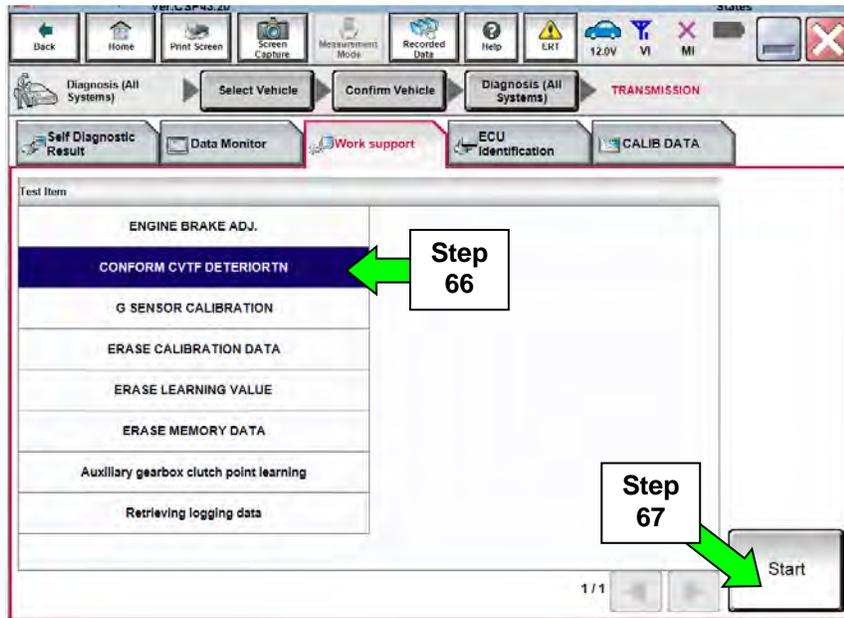

Figure 37
65. Navigate C-III plus to the screen shown in Figure 37.